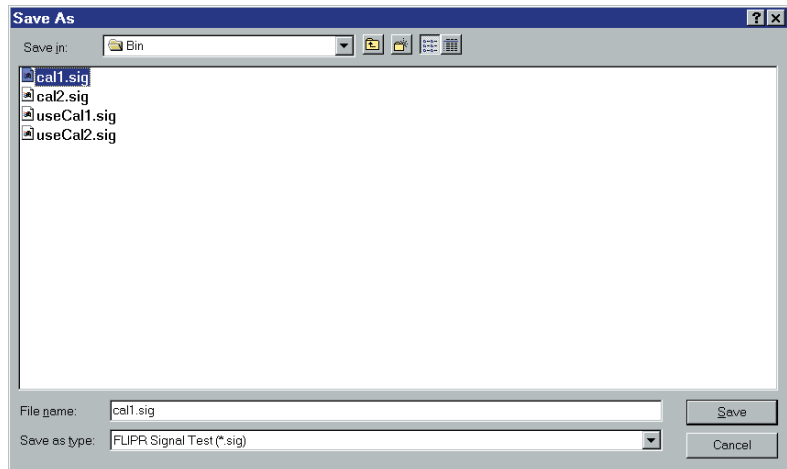

Figure E-3: The **Save As** dialog box.
- 7) The test results need to be saved into the **Bin** folder in the **FLIPR** folder. Click the **Save** button, then use the **Save** dialog box to select **C:** drive  $\rightarrow$  **FLIPR** directory  $\rightarrow$  **Bin** folder (Figure E-3).
2) Repeat the steps in section Figure E.3 to execute the signal test, saving the new signal test results as **Cal2.sig**, overwriting the existing file of the same name.
- 6) Repeat the steps in section Figure E.3 of this protocol to run a signal test. If the warning that no calibration will be applied re-appears, check that the name of the file saved in Step 4 above was correctly entered as "**Calibrate.96**" or "**Calibrate.384**".